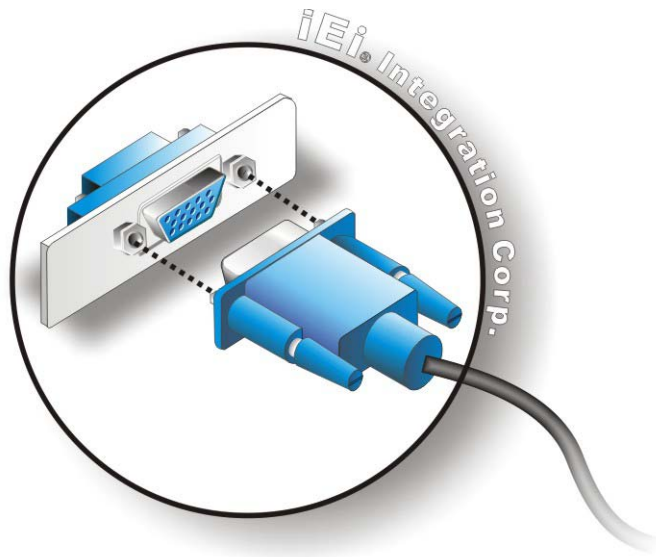

Figure 3-21: VGA Connector
- Step 3:** **Insert the VGA connector.** Once the connectors are properly aligned with the insert the male connector from the VGA screen into the female connector on the TANK-610-BW. See **Figure 3-21**.